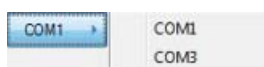

FIG. 18 Serial Connection option - COM <X> button
3. Click and hold the **COM<X>** command button (FIG. 18) to select the port (COM 1 or COM 3) to use for Serial communication (default = COM 1):